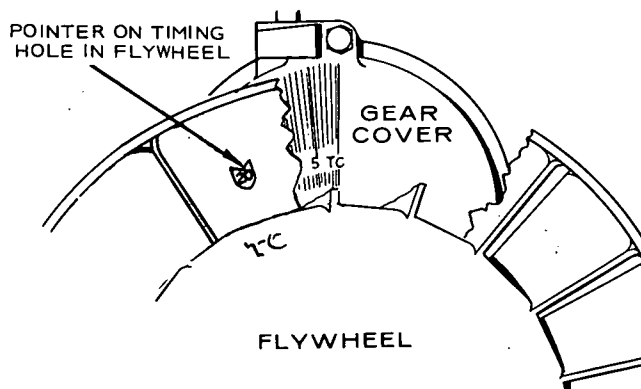

FIGURE 23. FLYWHEEL TIMING HOLE
2. Start the engine and check the timing. The pointer on the flywheel should line up with the 20° mark on the cover. The timing hole through the flywheel and the timing marks on the timing gear cover can be seen by looking through the flywheel blower screen. See Figure 23.